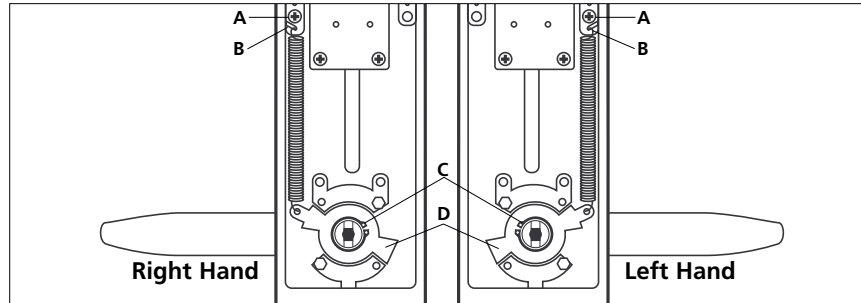

Figure 16
**Outside Housing Assembly (see Figure 16)**
- 1) Remove the spring screw (A).
- 2) Unhook the spring from the spring hook (B).
- 3) Remove the retaining ring (C).
- 4) Remove the stop plate (D).
- 10) If the self-aligning studs have previously been installed, change their position in keeping with the new handing of the lock (see Figure 16).